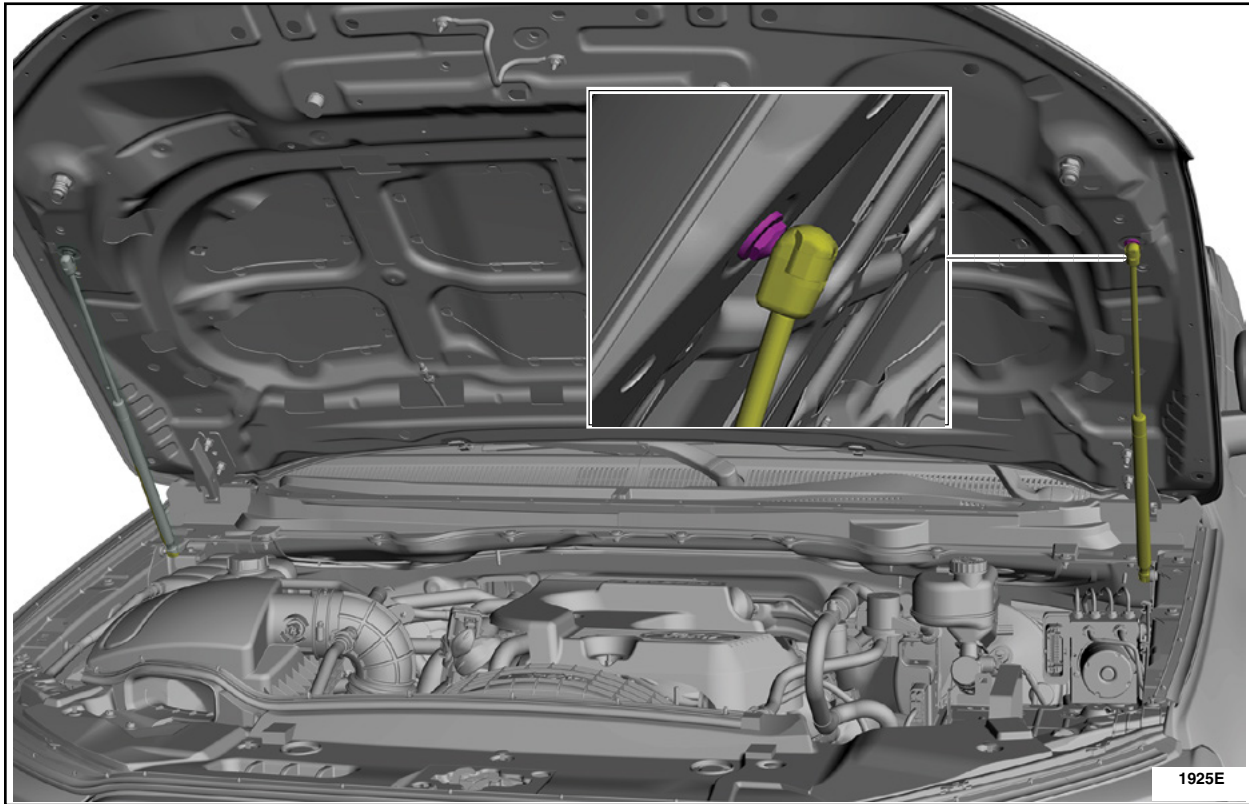

FIGURE 5
6. Install a suitable Telescoping Hood Prop Rod to support the hood. Release the clip and position aside the left hand side hood strut. See Figure 5.